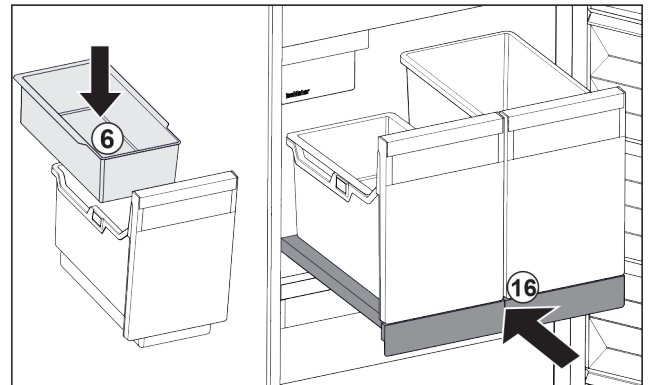

Fig. 130
- Insert hang-on tray Fig. 130 (6) for ice cubes.
- Slide in the pull-out board with (IceTower) container. Fig. 130 (16)